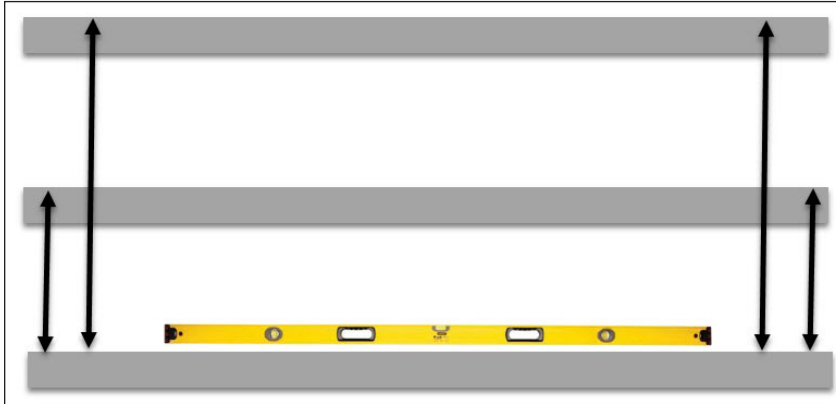
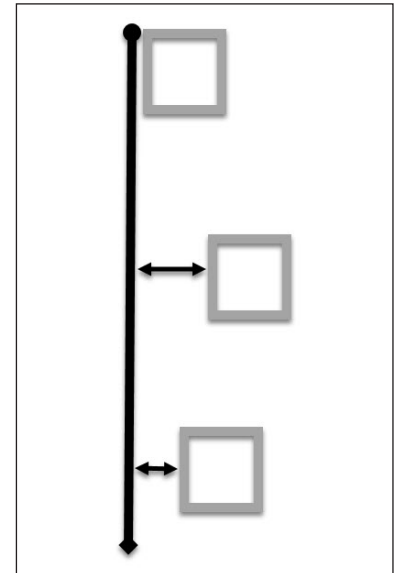

Figure 1: Verify Level Horizontal Rolled Tubes (Front View)
Figure 2: Verify Plumb Horizontal Rolled Tubes (Side View)
2. Verify the horizontal rolled tubes are level and plumb per the contract-specific Shop Drawing. Refer to **Figure 1** and **Figure 2**. If no tolerances are listed on the drawing, use $\pm 1/4"$ level and $\pm 1/4"$ plumb face (horizontal rolled tube) or $\pm 1/4"$ level and $\pm 1/4"$ plumb face (directly to horizontal tube).